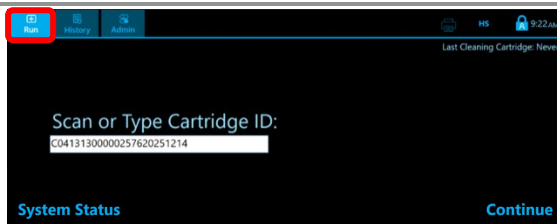

Figure 8. Step 1 Quantra Reference Screen.
1. Click the **[+] Run** tab at the top left of the screen to initiate a new test (Figure 8).